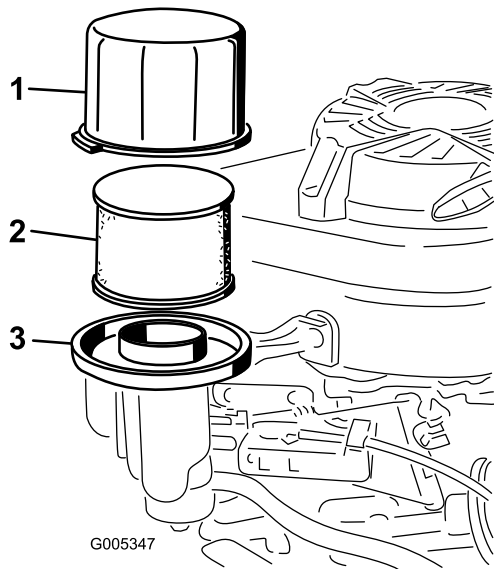

Figure 23
3. Remove the cover and clean it thoroughly (Figure 23).
4. Remove the foam pre-filter and the paper-air filter from the air-filter base (Figure 23).